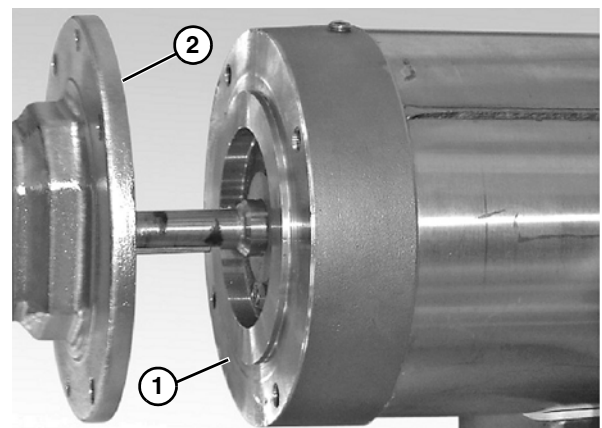

Figure 36
1. Attach the motor (Figure 36, item 1) to the gear reducer (Figure 36, item 2).